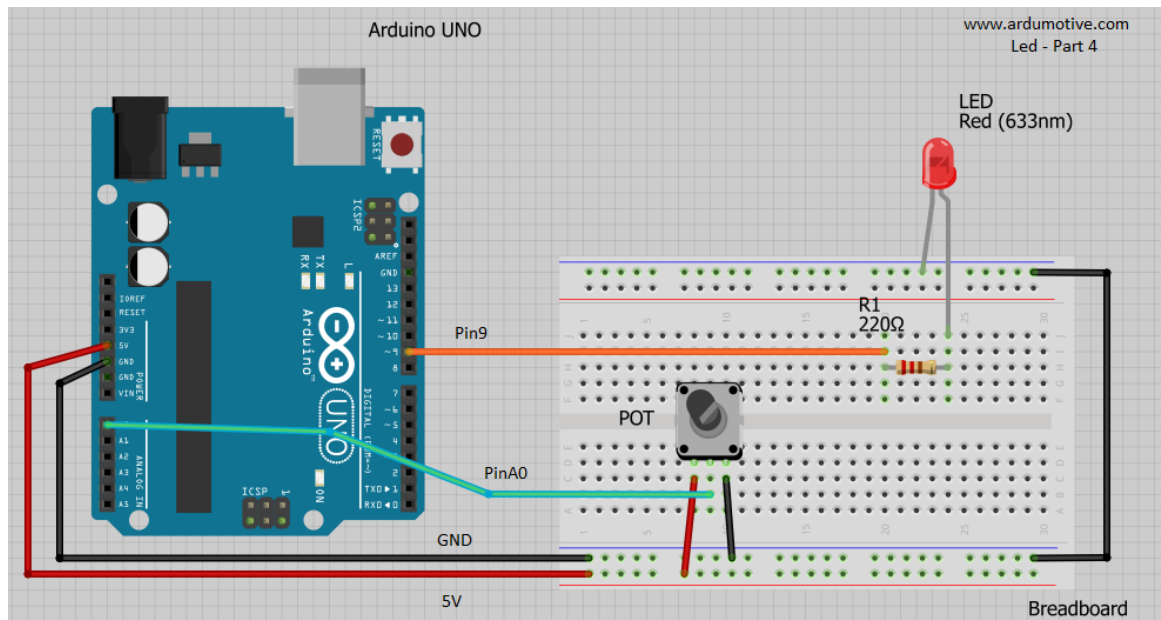

Fig. 1
3. Connect the middle leg (wiper) of the potentiometer to an analog input pin on the Arduino, such as A0. An example of the circuit setup is shown in **Fig. 1**.